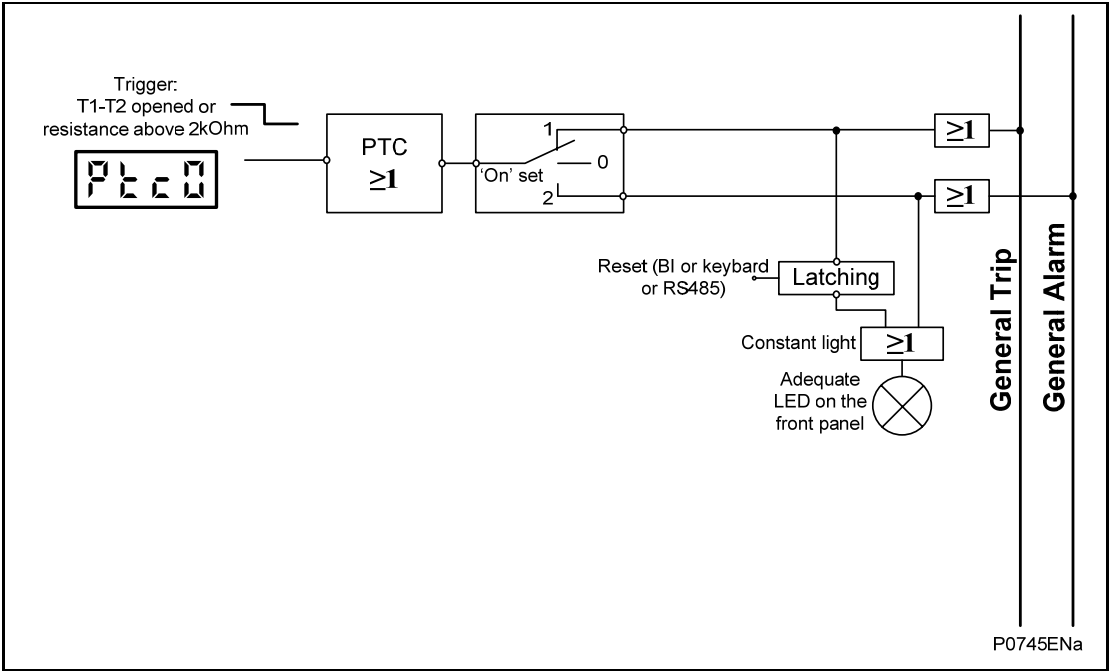

Figure 4: PTC external trip logic diagram
- PTC – this protection function is triggered by low state of appropriate programmed binary input (PTC input: T1-T2 terminals). The logic diagram for PTC external protection is shown in Figure 4